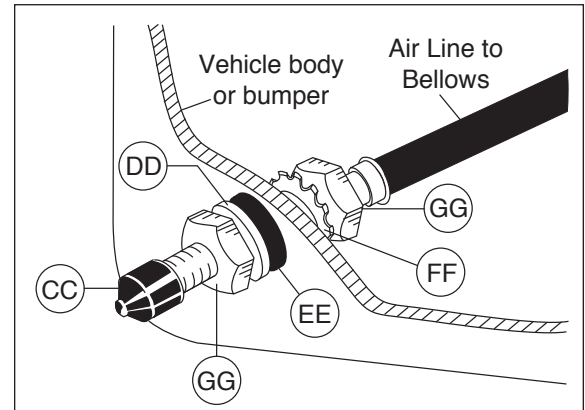

Figure 9
3. Cut the air line assembly (AA) in two equal lengths.
4. Place a  $\frac{5}{16}$ " nut (GG) and a star washer (FF) on the air valve. Leave enough of the inflation valve in front of the nut to extend through the hole and have room for the rubber washer (EE), flat washer (DD), and  $\frac{5}{16}$ " nut (GG) and cap (CC). There should be enough valve exposed after installation - approximately  $\frac{1}{2}$ " - to easily apply a pressure gauge or an air chuck (Figure 9).
5. Push the inflation valve through the hole and use the rubber washer (EE), flat washer (DD), and another  $\frac{5}{16}$ " nut (GG) to secure it in place. Tighten the nuts to secure the assembly in place (Figure 9).
6. Route the air line along the frame to the air fitting on the air spring. Keep at least 6" of clearance between the air line and heat sources, such as the exhaust pipes, muffler, or catalytic converter. Avoid sharp bends and edges. Use the plastic tie straps (BB) to secure the air line to fixed, non-moving points along the chassis. Be sure that the tie straps are tight, but do not pinch the air line. Leave at least 2" of slack to allow for any movement that might pull on the air line.